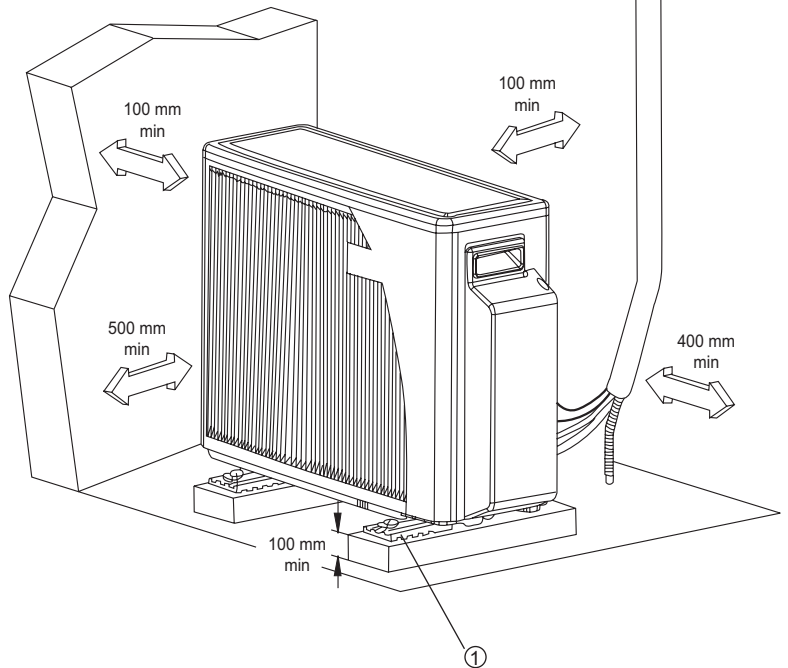

Fig.4
- The location must allow easy servicing and provide good air circulation as shown in fig 4.
- Refer to figure 4 for allowed installation distances.